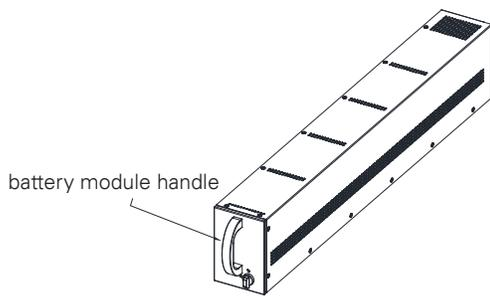

Figure 4-3: Take Out the Battery Modules from the Package
1. Take out the battery modules from the package, see Fig4-3.